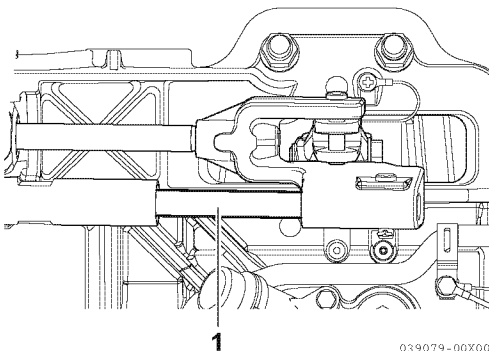

Figure 5
2. Turn the steering wheel until the steering cable (1, **Figure 5**) is fully extended. Lightly lubricate the exposed part of the cable.